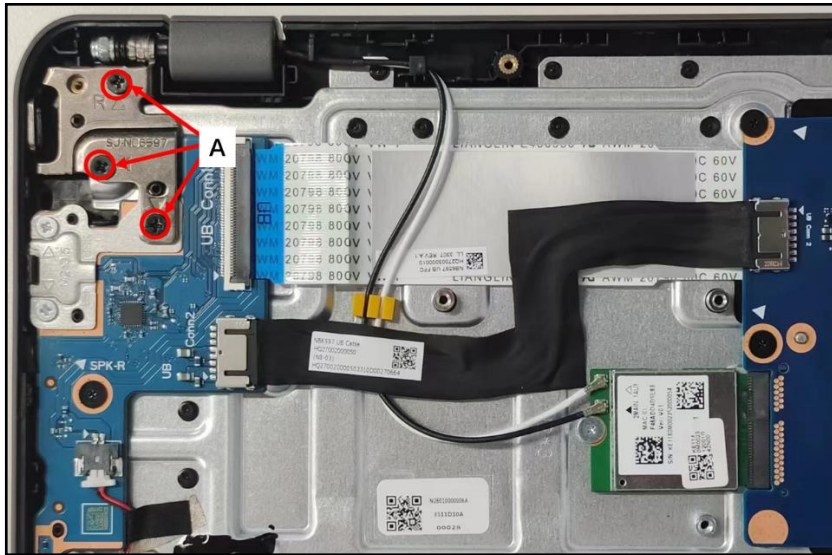

Figure 3-21. USB Board Removal
1. Remove three (3) screws (A) securing the right LCD hinge (Figure 3-21).